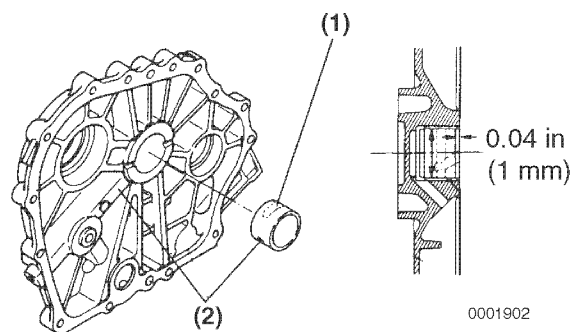

Figure 6-60
Inspect the main bearing (**Figure 6-60, (1)**) for discoloration, separation or other damage.
- Measure the inside diameter of the main bearing insert (**Figure 6-60, (1)**) in the crankcase cover. See *Crankshaft* on page 6-8 for the service limit. Record the measurements.
- When installing the new bearing insert, make sure the oil groove (**Figure 6-60, (1)**) is facing up and that the oil hole is facing the oil port (**Figure 6-60, (2)**). Install to a depth of 0.04 in. (1 mm) from the thrust surface (**Figure 6-60**).